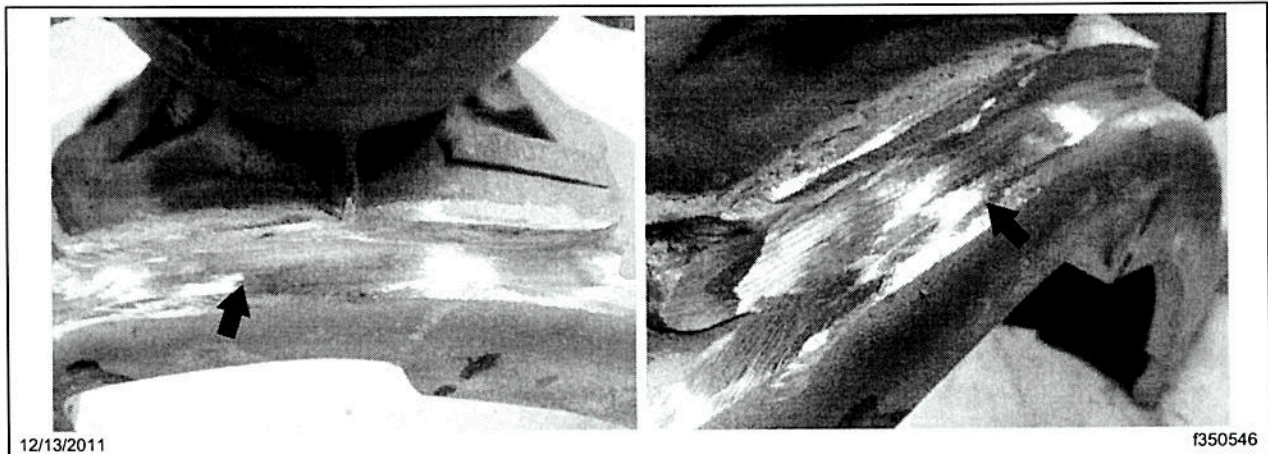

Fig. 2, Bracket Weld, Ground to Housing and Bracket Materials
1. Use a grinder to remove the cracked weld. The weld must be removed to the base housing and bracket materials. See Fig. 2.